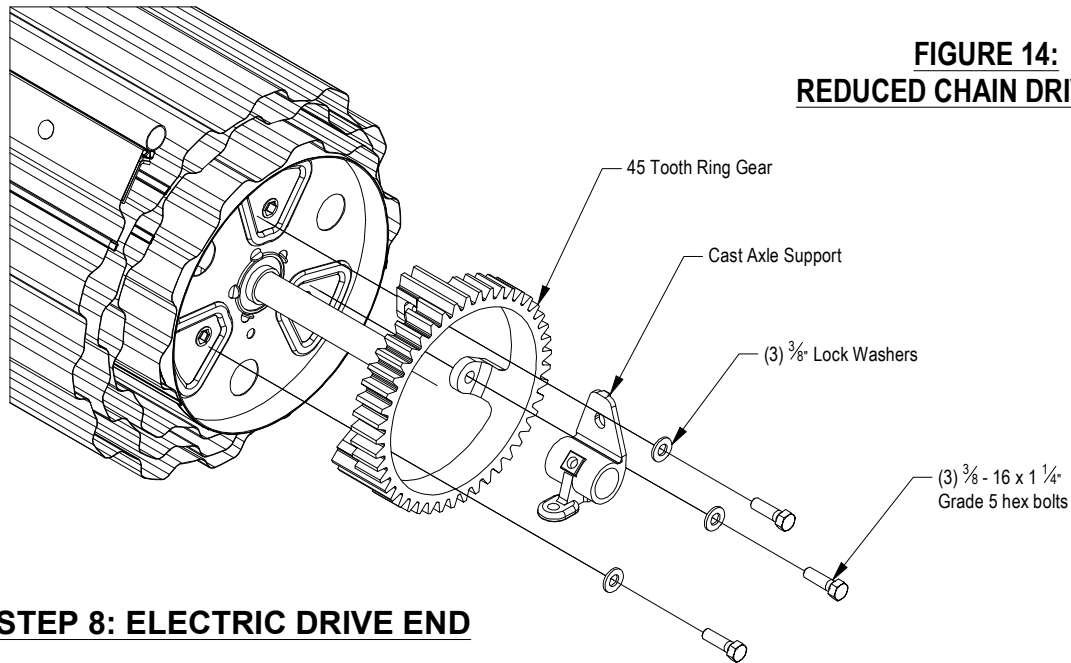

FIGURE 14:
- Fasten 45 tooth cast ring gear to drum using three (3) each $\frac{3}{8}$ - 16 x $1\frac{1}{4}$ " grade 5 hex bolts and $\frac{3}{8}$ " lock washers.
- Slide cast axle support over axle. **See Figures 14.**